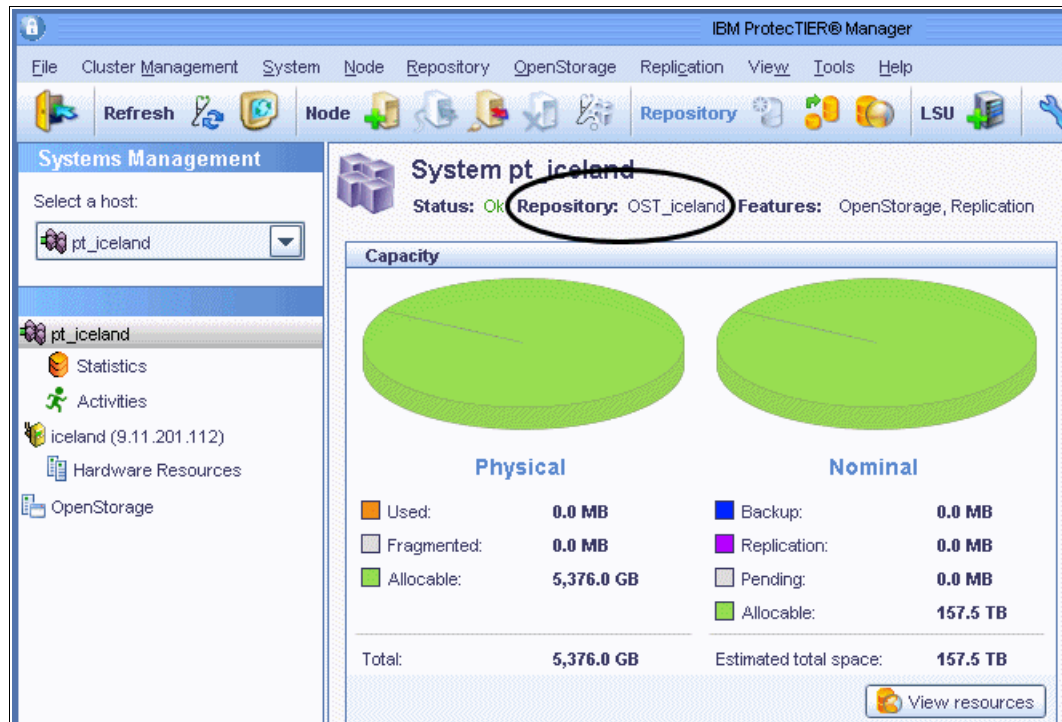

Figure 5-60 New repository name
3. The new repository name will be updated immediately (Figure 5-60).